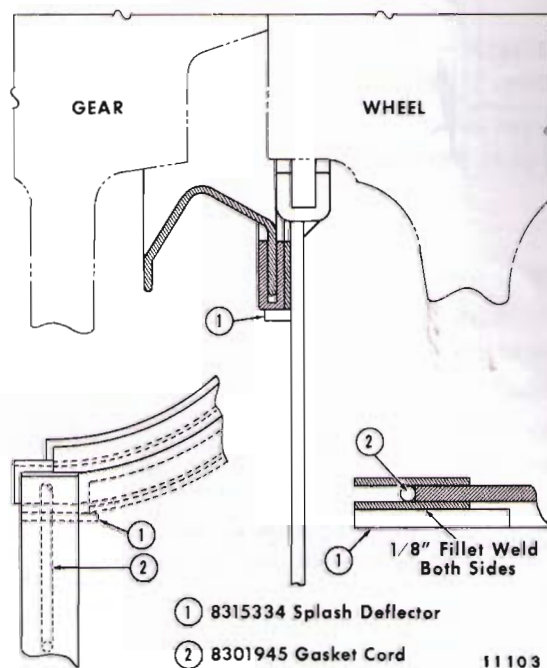

Fig. 5 - Splash Deflector
15. A splash deflector 8315334 is to be welded to the inside of the case on the wheel side at the pinion end of the gutter retainer, as shown in Fig. 5. Make sure the deflector does not interfere with the assembly of the gutter.